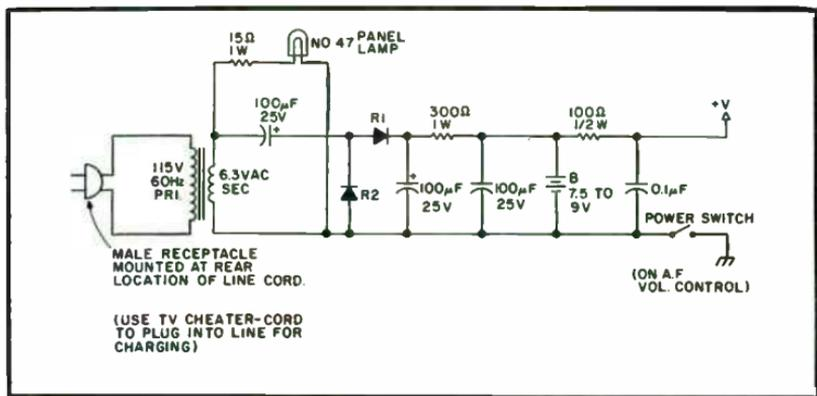

Fig. 9-11. Schematic.
- Unsolder and disconnect power transformer connections (filament supply line and high-voltage rectifier-filter system), and reconnect the power supply components as shown in Fig. 9-11, using additional components as needed.